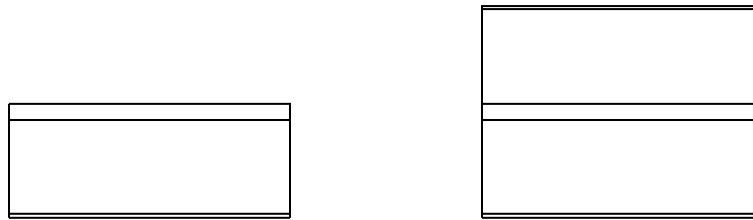

Figure 37
1. Remain in the *Sandbox* project file. Open the *Level 1* plan view (see Figure 37).